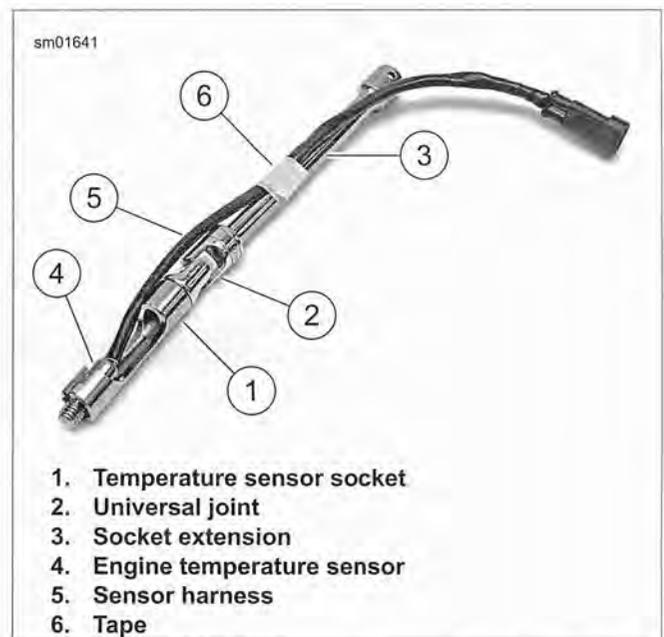
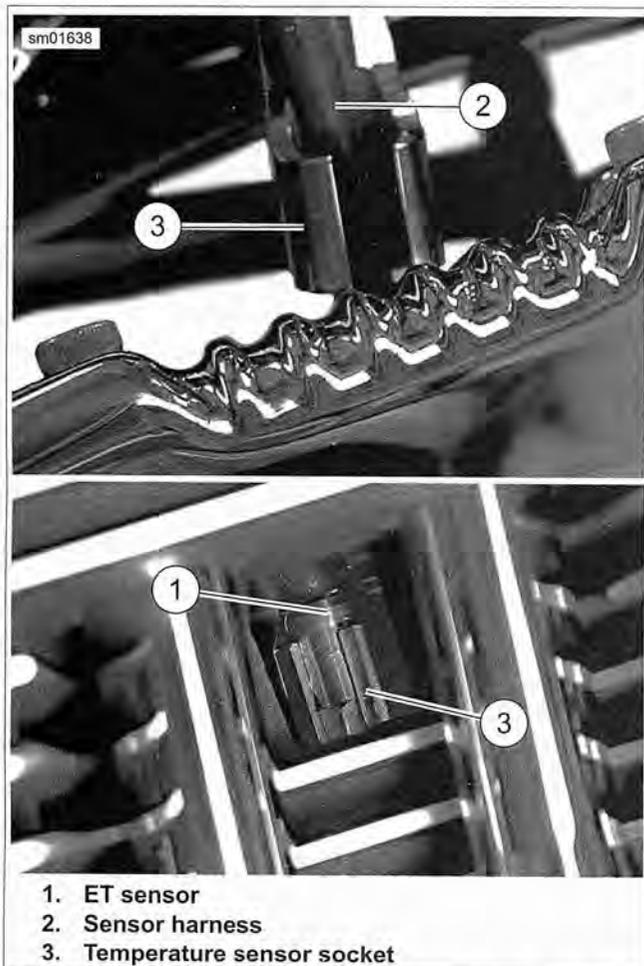

Figure 4-29. Tape Sensor Harness to Extension (sensor removed for clarity)
Figure 4-28. Installing Engine Temperature Sensor Socket (XL shown)
- b. See Figure 4-28. Fit engine temperature sensor harness (2) into slot in temperature sensor socket (3).
- c. Slide socket down harness, through square hole in center of rear rocker cover assembly and fit onto ET sensor (1).
- d. See Figure 4-29. Once you have installed the temperature sensor socket (1) onto the sensor (4), secure the sensor harness to the socket extension (3) with tape (6). This will facilitate removal of the sensor.
1. See Figure 4-29. Fit engine temperature sensor (4) into temperature sensor socket (1).